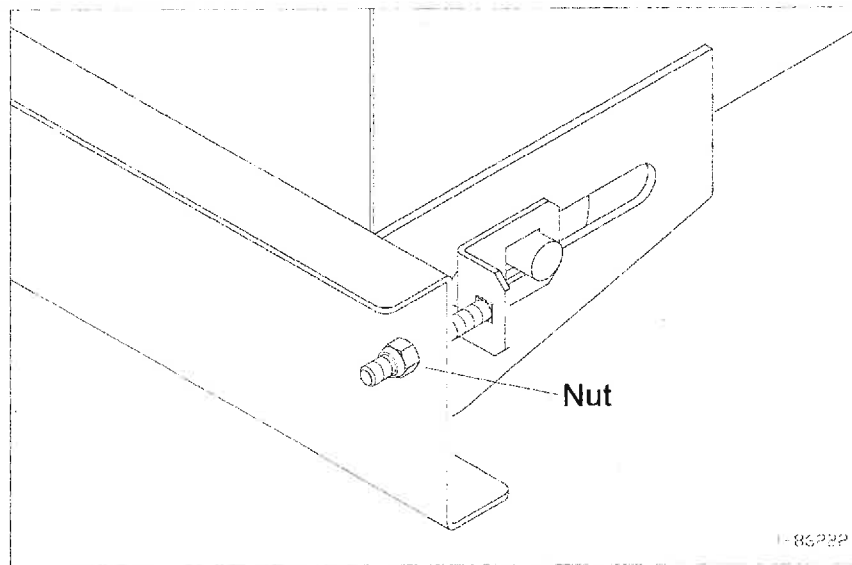

Figure 4A - Adjusting the Floor Apron Chain for Proper Tension
- Periodically check the floor apron chain for proper tension/tightness (refer to Figure 4A).
- Use a 9/16" wrench to tighten the adjustment nut on the lower left/right front of the spreader box as shown in Figure 4A. Observe the chain positioning with respect to the floor/apron. ***Make sure that the chains on each side of the apron are equally taut.***